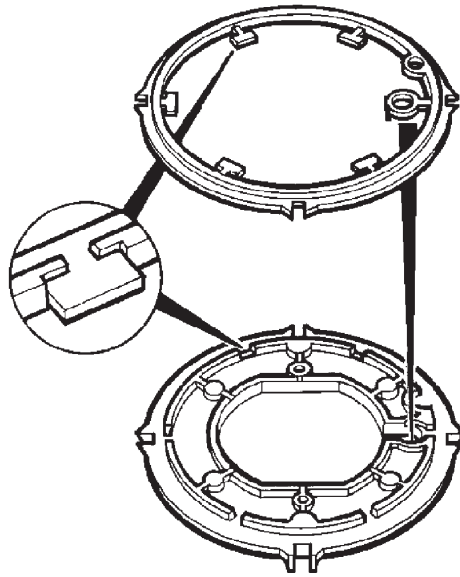

Fig. 14
- 21.** Attach two fixing disc gaskets to the two fixing discs (one for each burner size). (See Fig. 14).